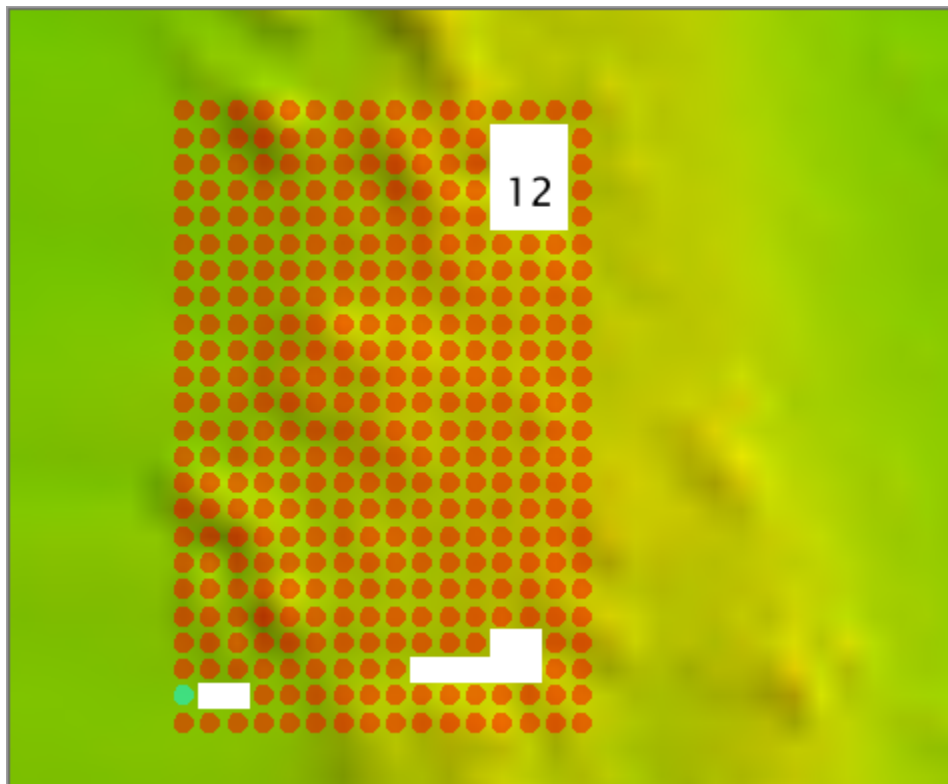

Fig. 2.21: Example for Full coverage.
- In the example in (Fig. 2.21), Full Coverage requirements identify the hole of 12 grid nodes, because there it contains an instance of 3x3 unpopulated grid nodes. The holes with 7 and 2 nodes do not.